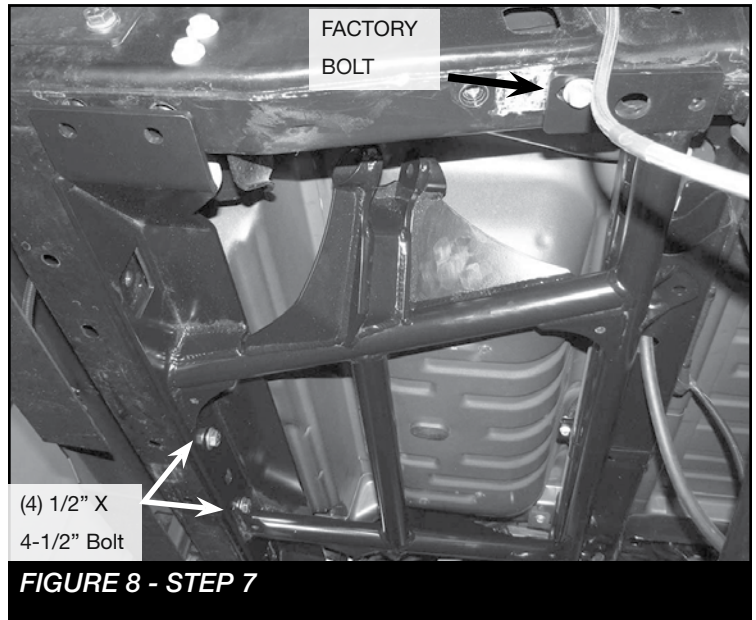

FIGURE 8 - STEP 7
- Using the help of another person, Install FT50426BK (Sub-Frame) using 2 factory bolts removed from the sway bar bracket attached to the frame and the 1/2" X 4-1/2" hardware. Install the factory bolt where the sway bar was attached. **SEE FIGURE 8.** Install the 1/2" hardware on the rear of the new sub-frame and through the frame. Leave hardware loose.